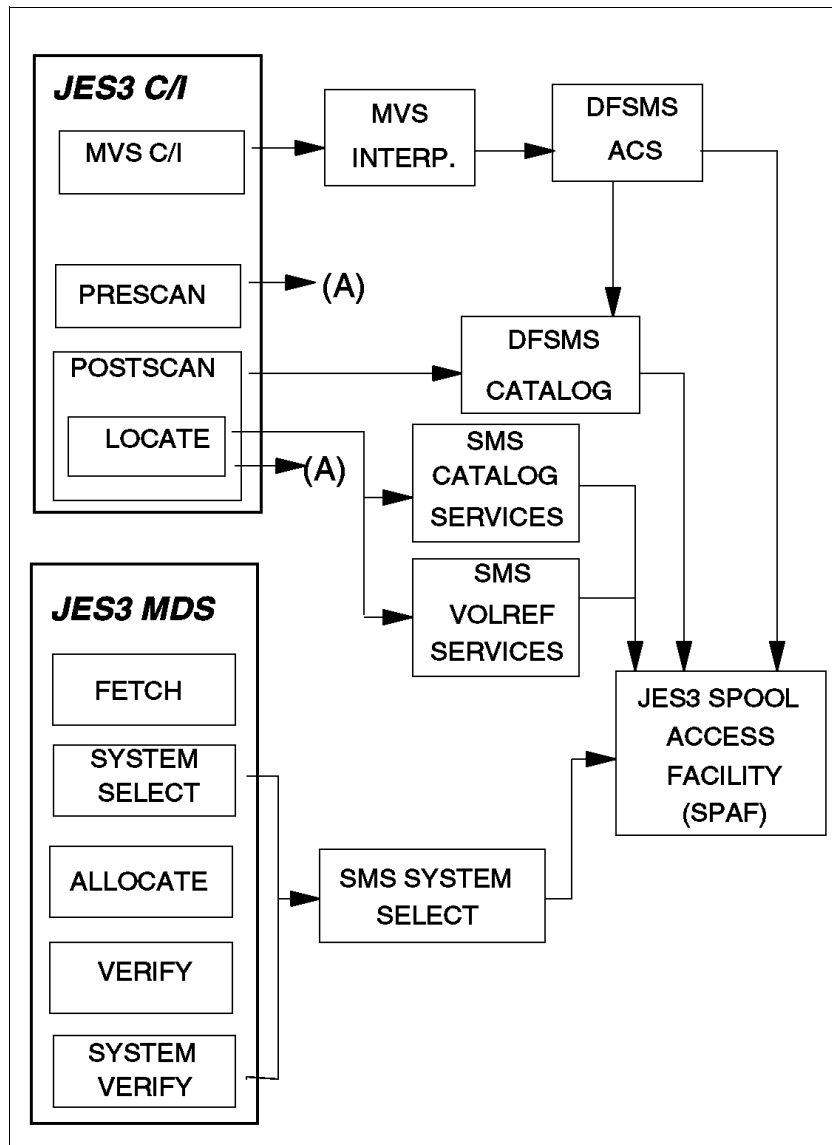

Figure D-11 JES3 C/I and MDS processing phases
- ▶ Two calls, one from the prescan phase and the other call from the locate processing phase, are made to the new DFSMS/MVS support module, as shown in Figure D-11 on page 833.
Figure D-11 on page 833 shows the JES3 processing phases for C/I and MDS. The processing phases shown include the support for system-managed direct access storage device (DASD) data sets.